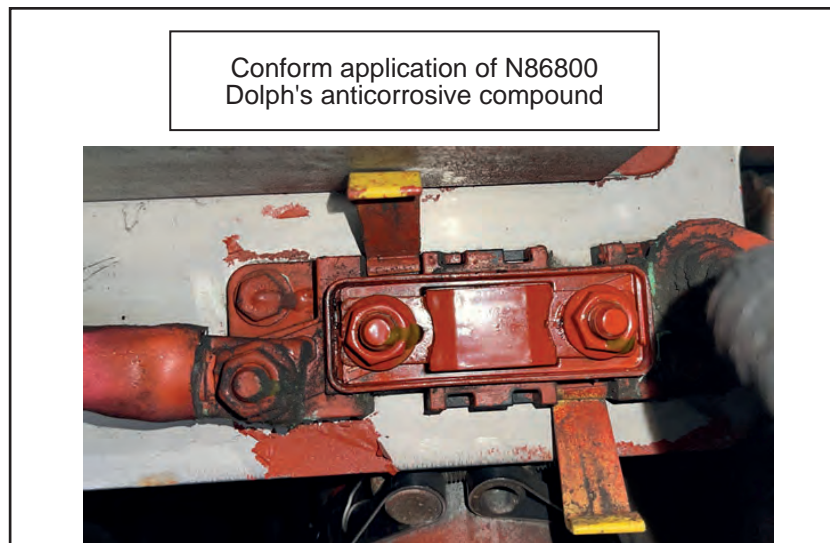

Figure 10 - Conform Application of N86800 Dolph's Anticorrosive Compound
- Using a brush, apply a liberal amount of N86800 Dolph's anticorrosive compound on the exposed metallic surface of the connections to protect them from corrosion. The product must cover completely the metallic surface of the connections, the electrical connection points of the fuse, the exposed metallic parts of the cable lugs connected to the fuse holder, and the fuse holder anchor bolts. Avoid covering the cables shrink tubing. See Figure 10.